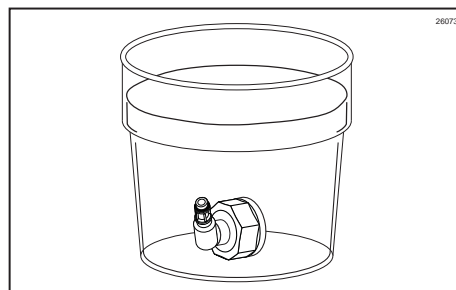

Figure 66
14. Place the Syrup Bag Adapter in sanitizer solution for at least 1 minute. (See Figure 66.)